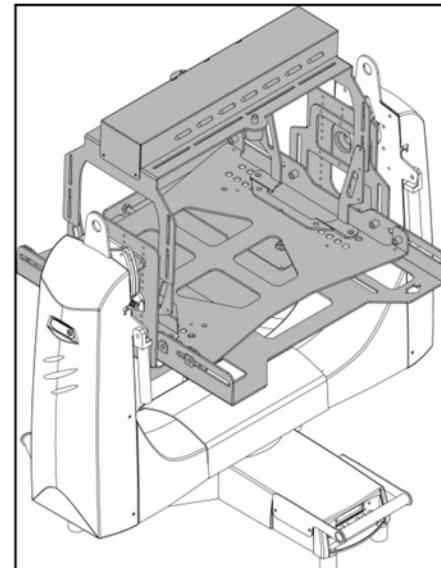

Figure 2-18 YK200 Bracket
- The YK200 bracket (**Figure 2-18**) and